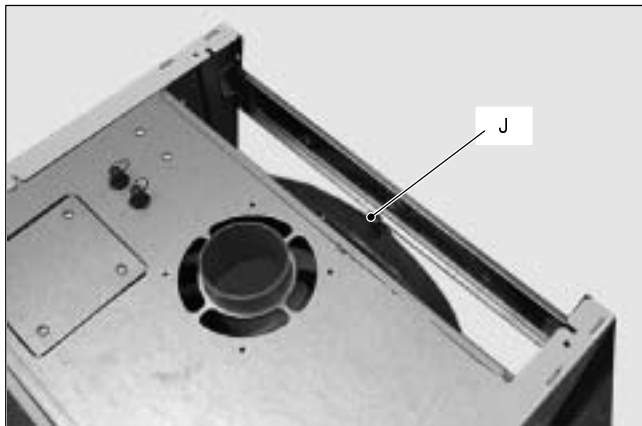

Fig. 54
- 2 Remove the protective cap J (Fig. 54) from the valve on the top of the expansion vessel and connect a suitable air pressure gauge.